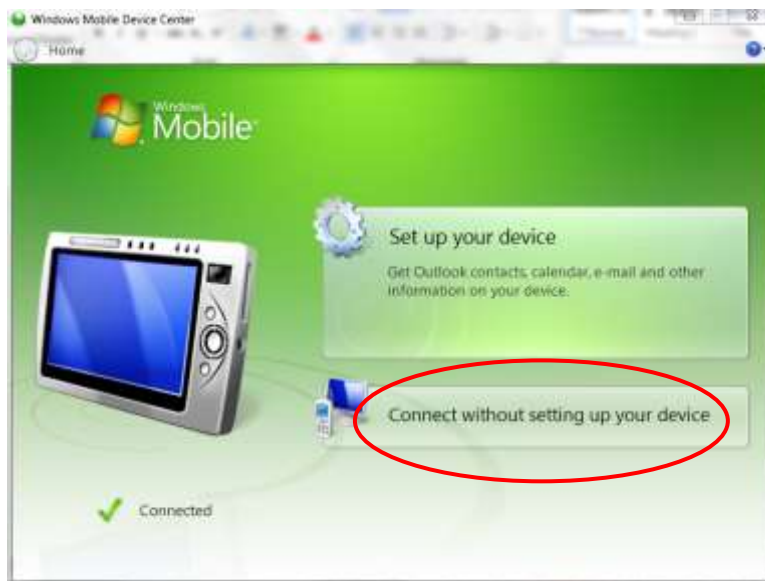

Figure 3-19: Windows Mobile Device Center
4. Plug the USB Cable provided with the system to the Cradle and to a computer (PC). The connector to the Cradle has to be firmly pushed into the Cradle to ensure a good contact.
7. After the Infrascanner boots up, Windows Mobile Device Center should appear on the PC as shown in Figure 3-19.